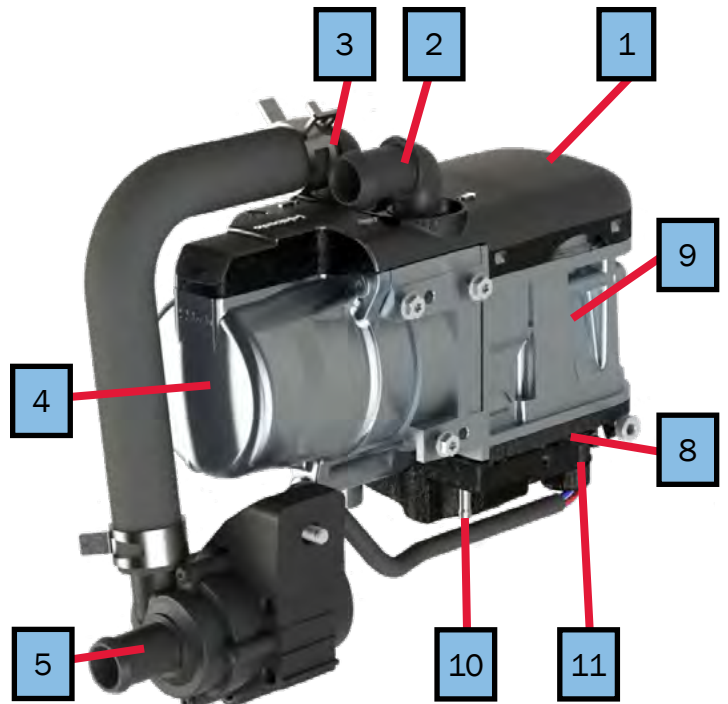

Figure 7
- Do NOT mount the fuel pump higher than the fuel inlet on the burner (see Figure 7 on Page 8 and the Fuel System section pages 40-44 for reference).